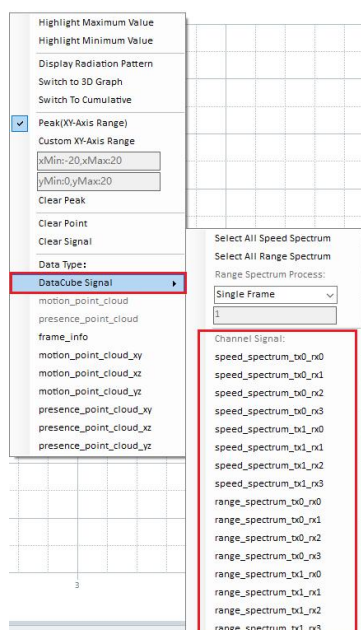
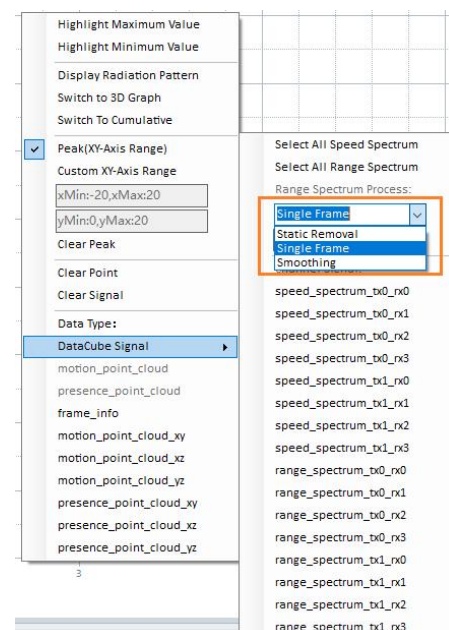

Figure 2-15 Spectrum Data
Figure 2-16 Range-Spectrum Processing
If the radar reports spectrum data, the host application groups spectrum-related signals so that they are separated from point-cloud and other data, as shown in Figure 2-15. The signals in the red box are spectrum data. Select the spectrum to view, or click Select All Range/Speed Spectrum to view all range and velocity spectra. In Figure 2-16, the following processing can be applied to range-spectrum data: (1) Static Removal.
(2) Single Frame.
(3) Smoothing. For more information about range-spectrum data processing, refer to the Data View Display (DataCube) section in RS6x_7x_RadarAnalysisTool_User_Manual_EN.